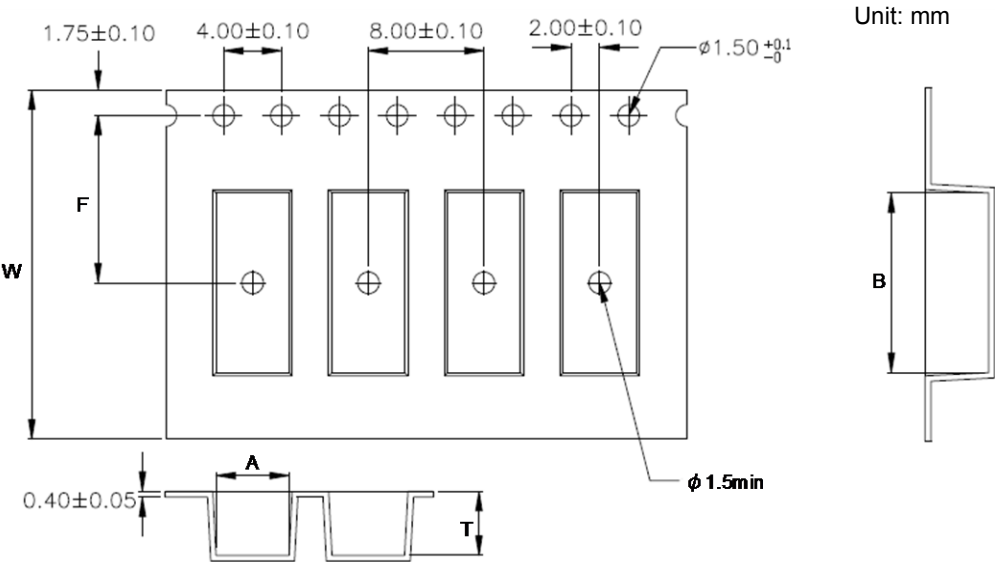

Figure 3 Tape Forms
- Dimensions: The tape dimensions are as shown in Figure 3.